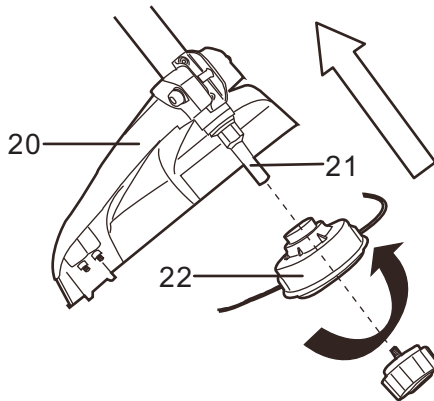

Fig. 4
- > Make sure that the safety guard (20) has been attached properly.
- > Slide the trimming head (22) onto the spindle (21) (Fig. 4).